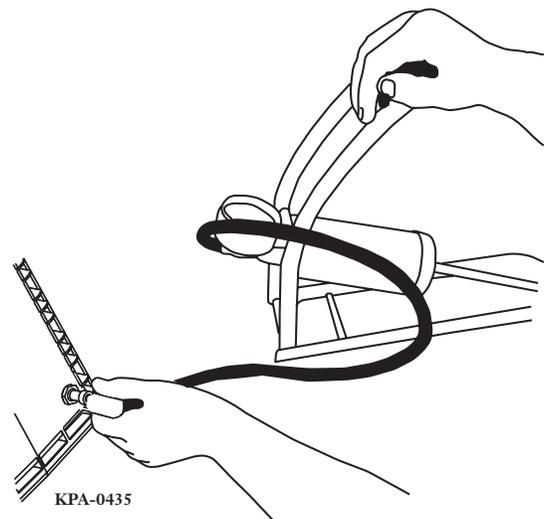

Figure 19 - Pressure Test Terminal
- Step 1** Inject a maximum of 5 psi of air into the terminal using a hand pump (Figure 19). Check pressure regularly.